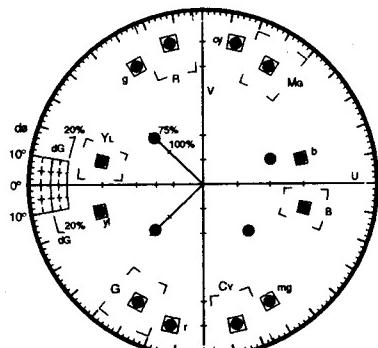

Fig. 5-1-9
- Adjust VR5 so that the each chroma vector positions at their correct positions on the Vectorscope as shown in Fig. 5-1-9.
- Adjust VR6 so that the each chroma vector positions at their correct positions on the Vectorscope as shown in Fig. 5-1-9.
- Adjust CT1 so that the each chroma vector positions at their correct positions on the Vectorscope as shown in Fig. 5-1-9.